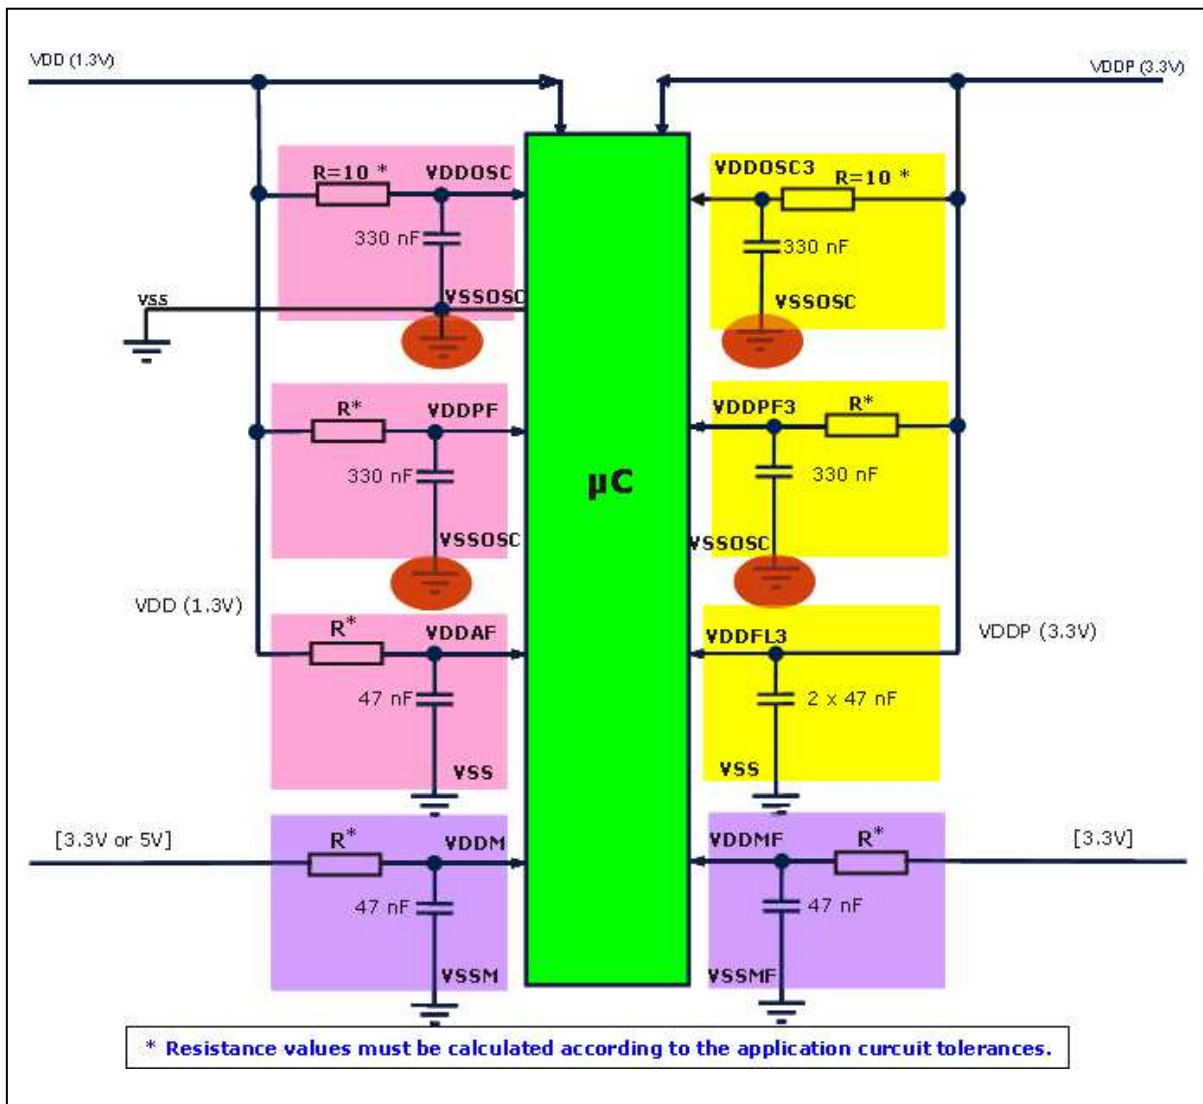

Figure 2 Filtering of VDDOSC, VDDOSC3, VDDFL3, VDDPF, VDDPF3, VDDM, VDDMF, VDDAF supply pins
- The power distribution from the regulator to each power plane should be made over filters (see Figure 2).
- RC Filters can be inserted in the supply paths at the regulator output and at the branchings to other module supply pins like VDDOSC, VDDOSC3, VDDFL3, VDDPF, VDDPF3, VDDM, VDDMF, VDDAF (see Figure 2). Using inductance or ferrite beads (5 – 10 μ H) instead of the resistors can improve the EME behaviour of the circuit and reduce the radiation up to ~10dB μ V on the related supply net.